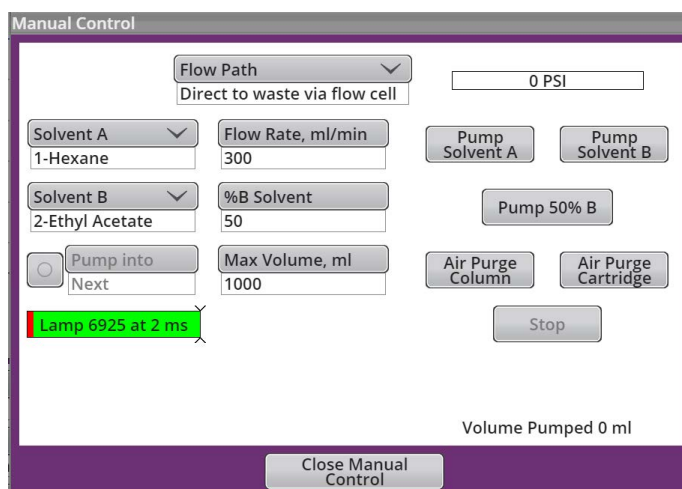

Figure 5-6 Manual Control Settings - Quick Cleaning
4. Set the Flow Rate to 40 mL/min (Figure 5-6).